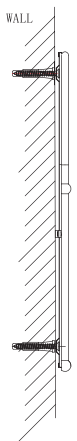

Figure 2
8. Place the mirror onto the screws, aligning it with the fittings on the back (refer to Figure 2).